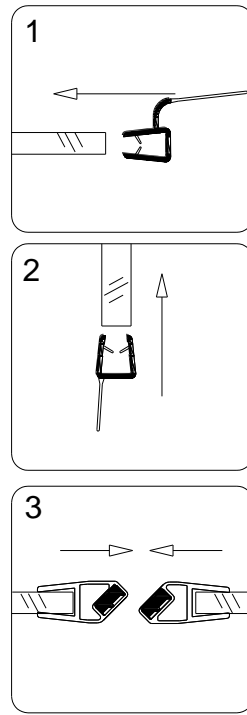

Fig. 10
10. Push the **Anti-water strip (10)** and the **Bottom anti-water strip (09)** onto the edges of the glass door. Then mount the **Magnetic strips (08)** onto the meeting edges of the stationary glass and the door. Adjust the pivots and the glass door screws to ensure that the door can open and close smoothly. See Fig. 10 for details.